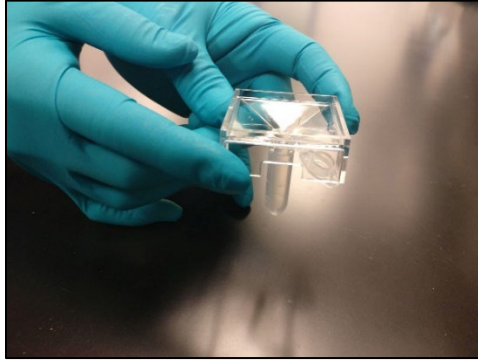

Figure 99. Assembling the collection module.
2. Open the collection kit and label the Collection Tube with the engraved chip number. Assemble the collection module by attaching the Collection Tube to the Collection Fixture, as shown in Figure 99.